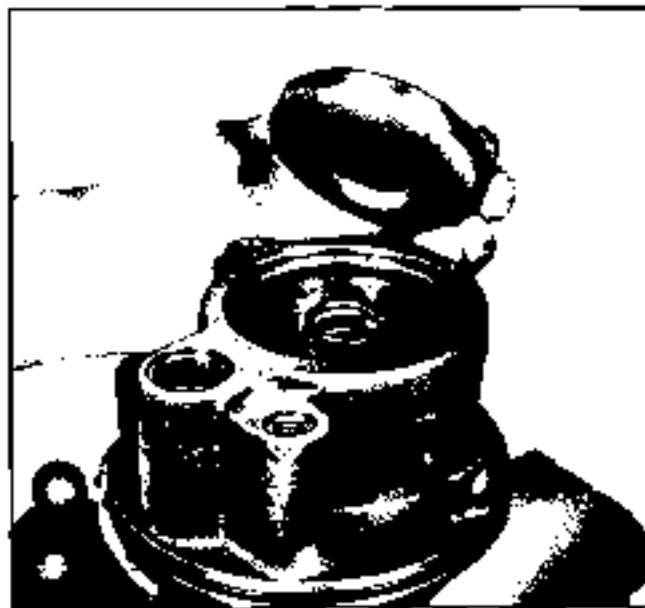

Fig. 9-85 Removing End Plate
6. Remove end plate and spring. End plate is spring loaded and will generally sit above the housing level. If sticking should occur, a slight tapping action will free the plate (Fig. 9-85).